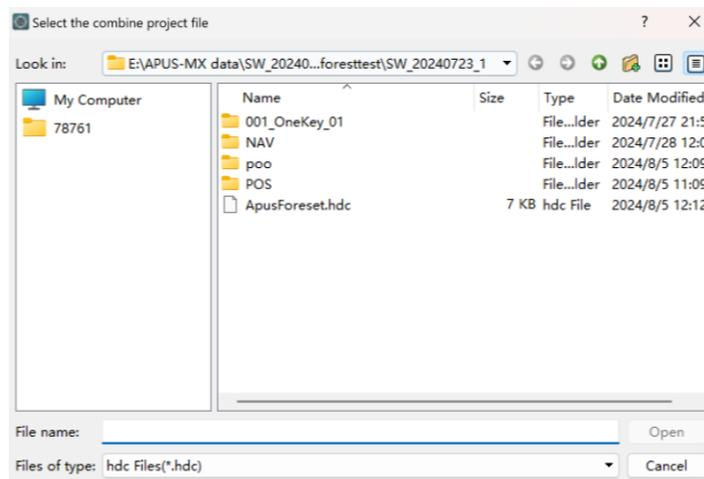

Figure 3-5 Open project dialog box
- A dialogue box (as shown in Figure 3-5) will pop up.